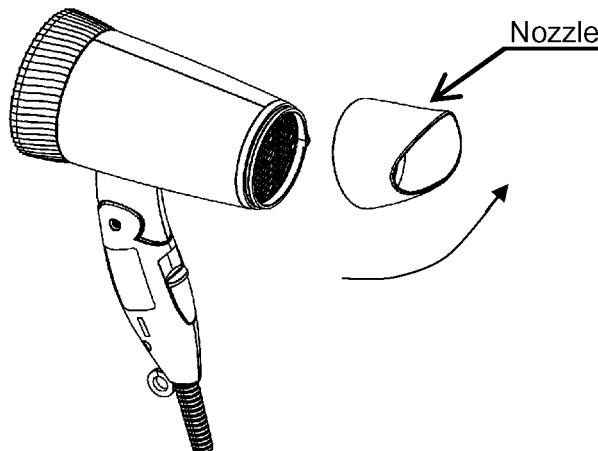

Figure 4
1. Take off nozzle as same direction in figure 4.